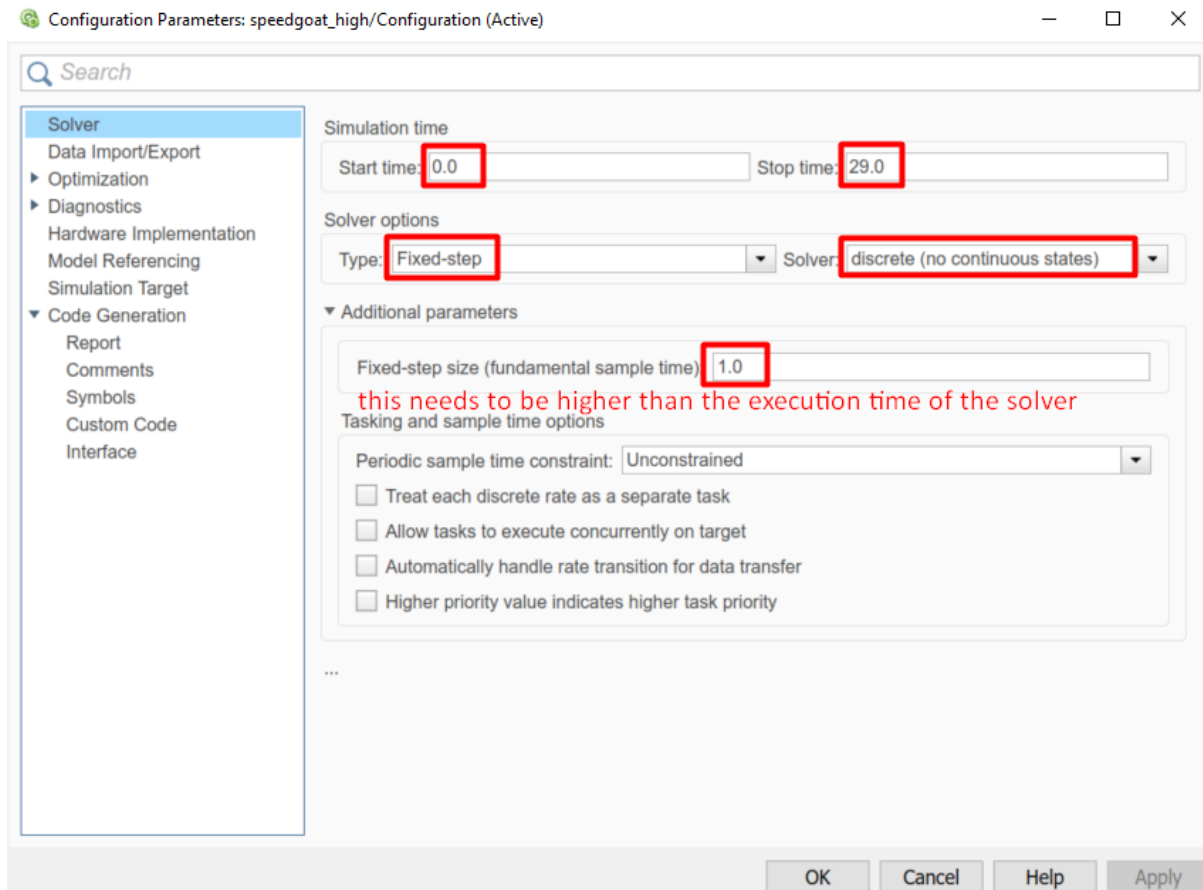

Figure 13.67: Set the Simulink solver options.
8. (Figure 13.67) In the “Solver” tab, set the options: